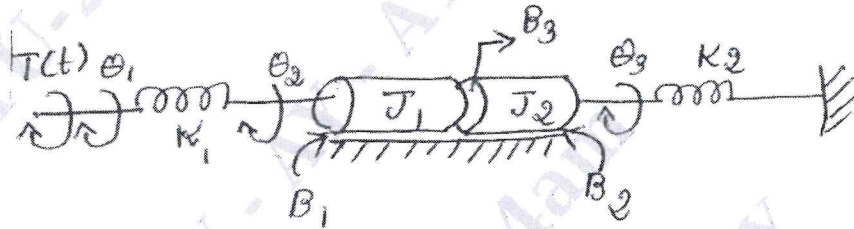

Fig. Q. 1 (b)
- b. For the rotational mechanical system shown in fig. Q. 1 (b), draw the electrical network based on torque – current analogies. Give all necessary cause – effect equations.